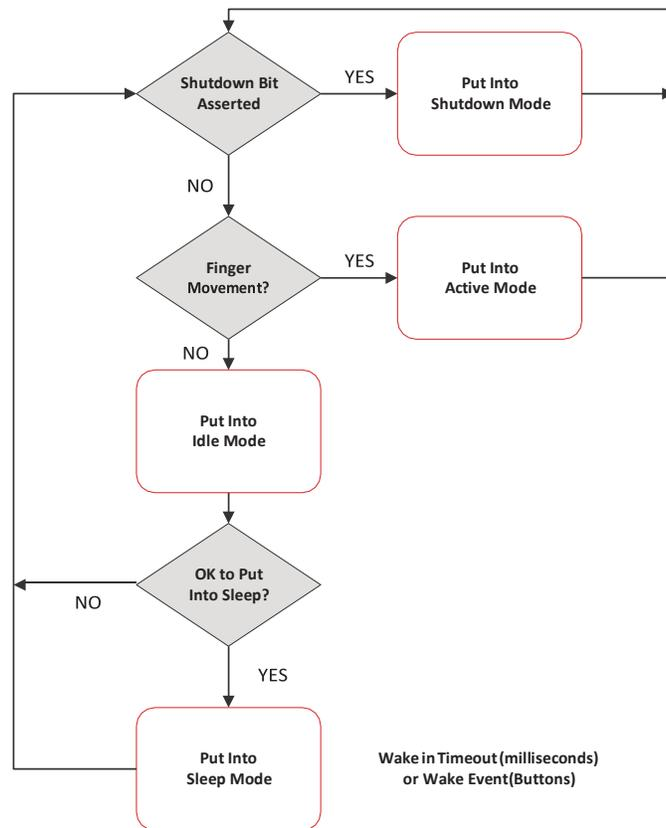
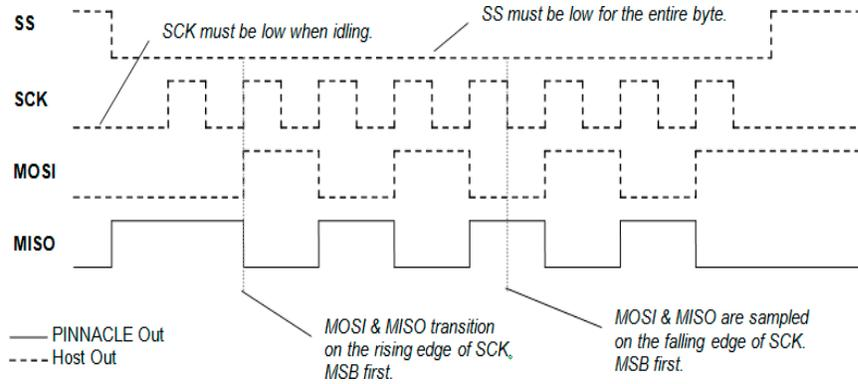

Figure 2. Pinnacle Power Mode State Machine
Figure 3. SPI Signals
Timing for the SPI data lines is shown below (see Figure 2, Figure 3 below, and Table 15 on page 21). The data exchange is started when the master pulls the Slave Select (SS) line low. Due to the full duplex nature of the SPI bus, Pinnacle always returns data at the same time that it is receiving data. The returned byte may be data from the previous command or it may be a filler byte. For both Master and Slave, data is changed on the rising edge of the clock and latched on the falling edge.